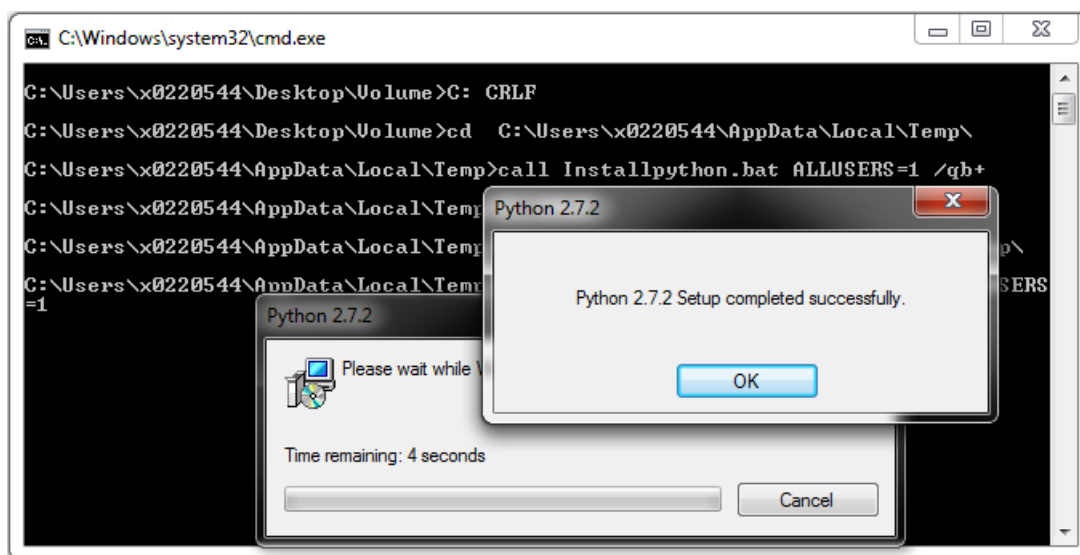

Figure 17. Python Installation Complete
8. After the installation of the GUI, Python installation initiates. Once python is installed, a screen as shown in Figure 17 appears. Click the **OK** button to proceed with USB2ANY installation.